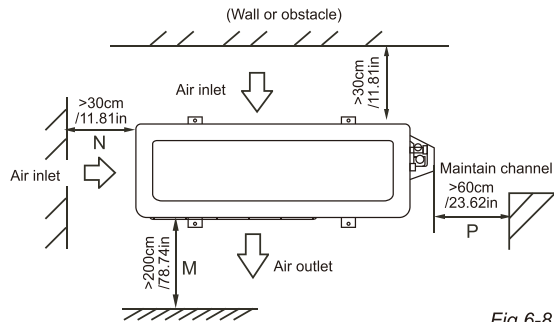

Fig.6-8
- The minimum distance between the outdoor unit and obstacles described in the installation chart does not mean that the same is applicable to the situation of an airtight room. Leave open two of the three directions (M,N,P) (Refer to Fig.6-8)